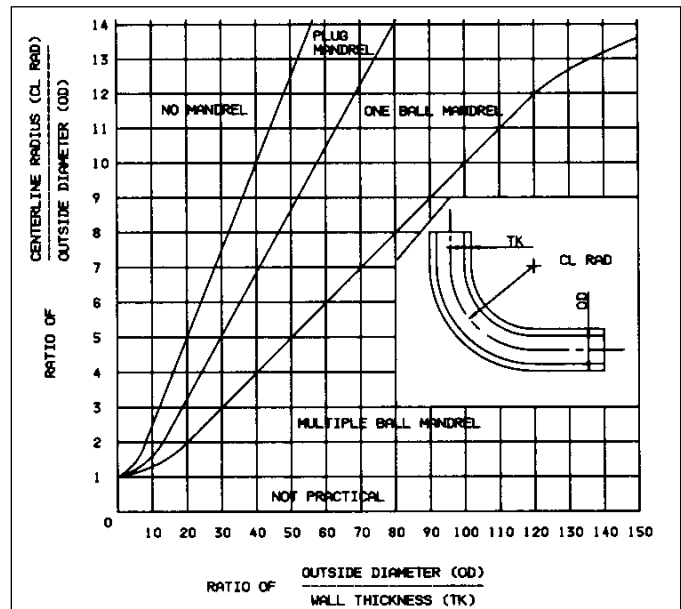

Fig. R32 — Mandrel Graph Chart
* See Fig. R32 for mandrel usage.